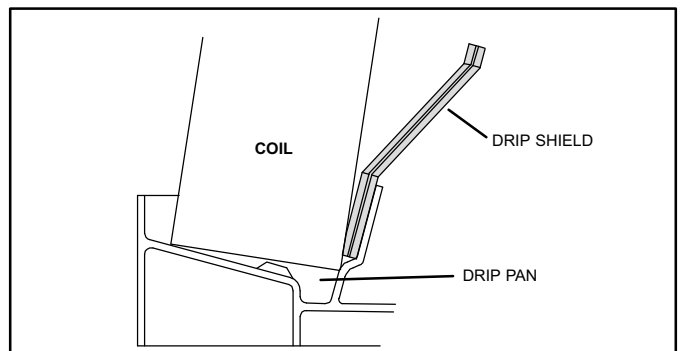

Figure 8. Downflow Drip Shields
5. From the underside of the coil, install the downflow drip shield firmly in place as illustrated in figure 8.